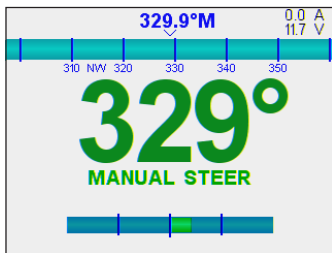

Figure 1:- Main Screen
- Go to **MANUAL** mode (Figure 1)